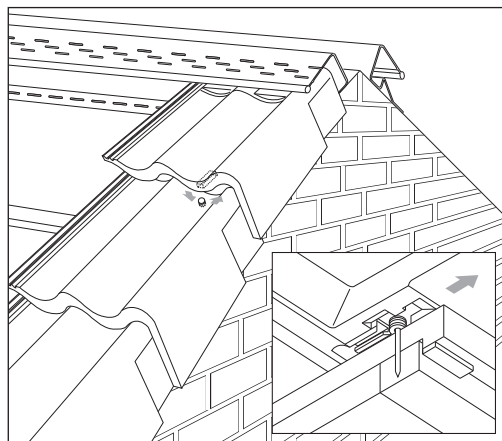

Fig 7 Engage nylon spacer with nail into channel of verge unit
- 16 Push cloak verge tile upwards and fit into dry ridge batten section (Fig 7).